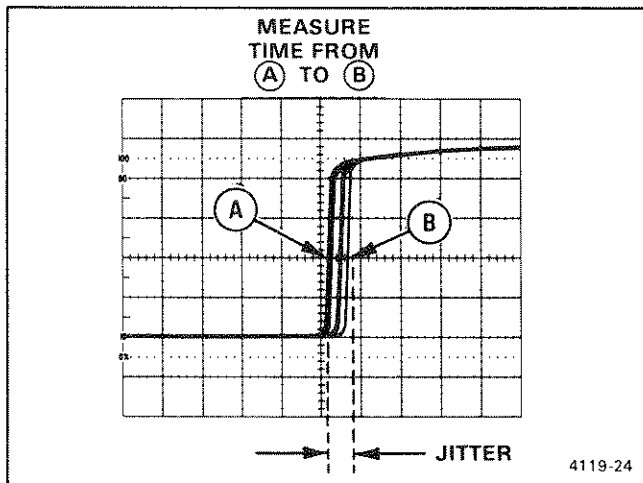

Figure 6-12. Pulse jitter.
2. Referring to Figure 6-12, measure the difference between Point A and Point B in divisions and calculate the pulse jitter time using the following formula: